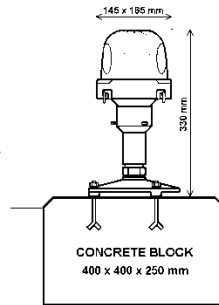

FIG 1
- On a tripod stand, see FIG 1.